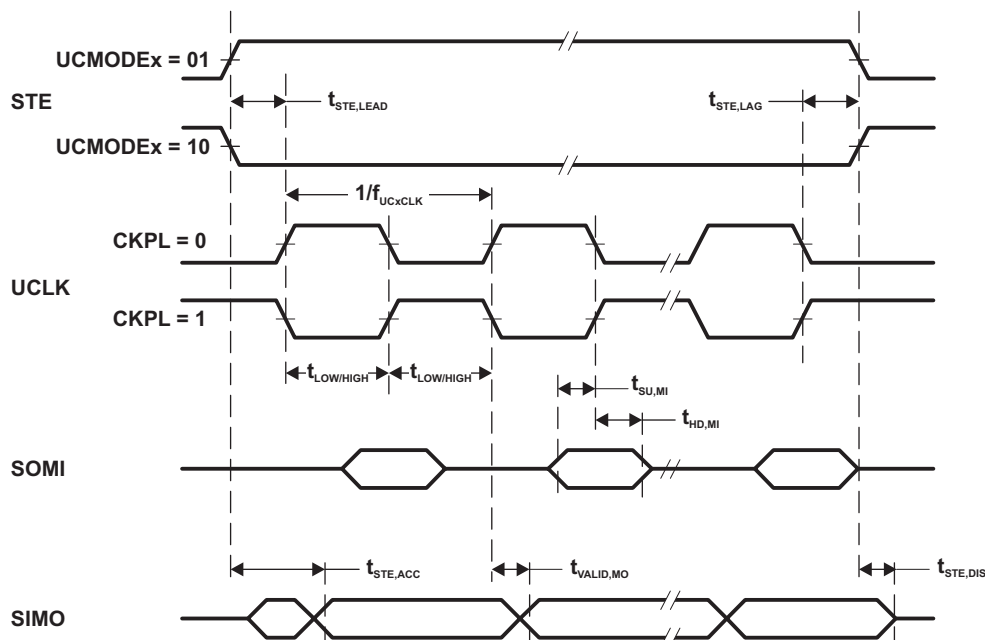
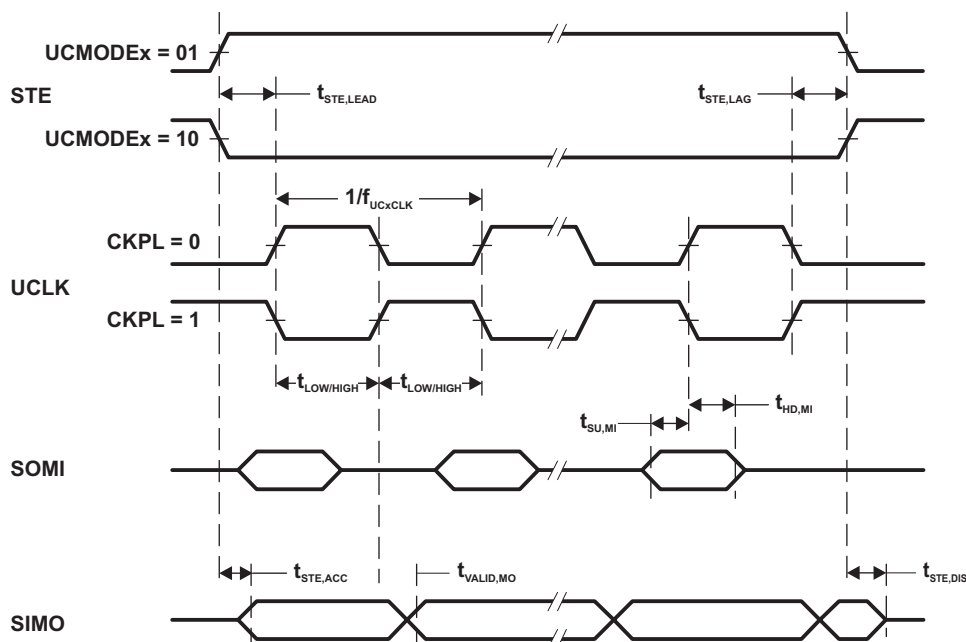

Figure 5-6. SPI Master Mode, CKPH = 0
Figure 5-7. SPI Master Mode, CKPH = 1
- (1) $f_{UCxCLK} = 1/2t_{LO/Hi}$ with $t_{LO/Hi} = \max(t_{VALID,MO}(eUSCI) + t_{SU,SI}(Slave), t_{SU,MI}(eUSCI) + t_{VALID,SO}(Slave))$. For the slave's parameters $t_{SU,SI}(Slave)$ and $t_{VALID,SO}(Slave)$ see the SPI parameters of the attached slave.
- (2) Specifies the time to drive the next valid data to the SIMO output after the output changing UCLK clock edge. See the timing diagrams in Figure 5-6 and Figure 5-7.
- (3) Specifies how long data on the SIMO output is valid after the output changing UCLK clock edge. Negative values indicate that the data on the SIMO output can become invalid before the output changing clock edge observed on UCLK. See the timing diagrams in Figure 5-6 and Figure 5-7.